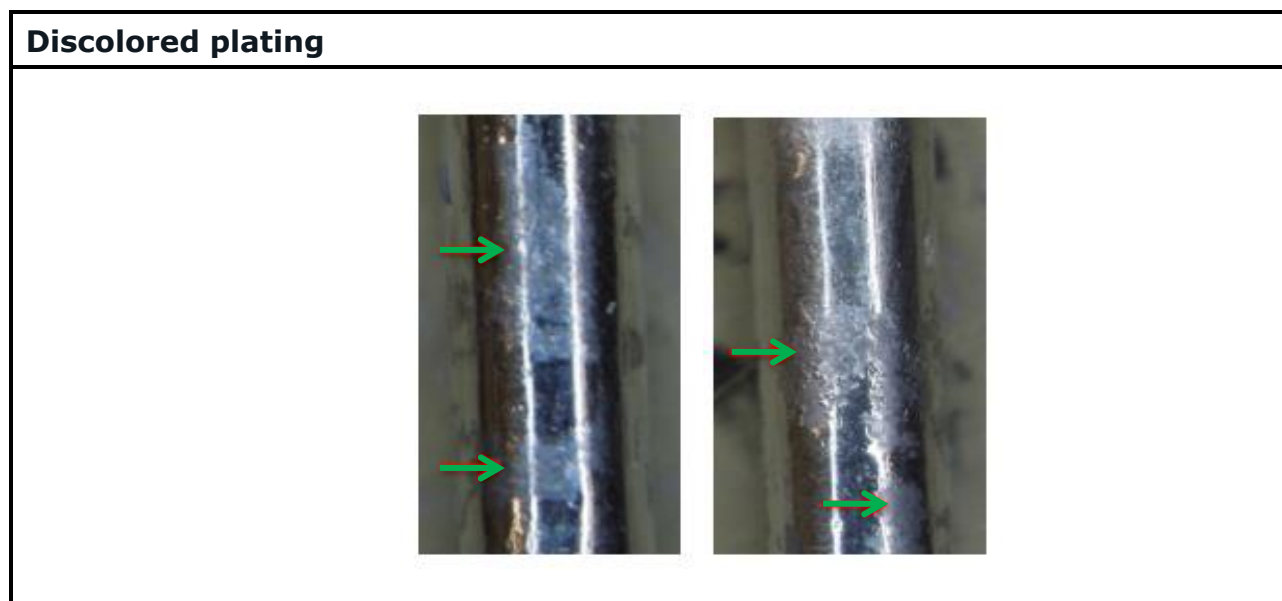

Figure 28: Examples of discolored solder pins
- The solder pins of the *flow* E3BP modules are plated with a nickel underlayer and a continuous tin finish to promote solderability. The tin finish can be discoloured due to production process or storage conditions. This is merely a cosmetic imperfection and does not influence the solderability of pins. Different solder pins on the same module may exhibit different levels of discoloration as shown in the examples in Figure 28.